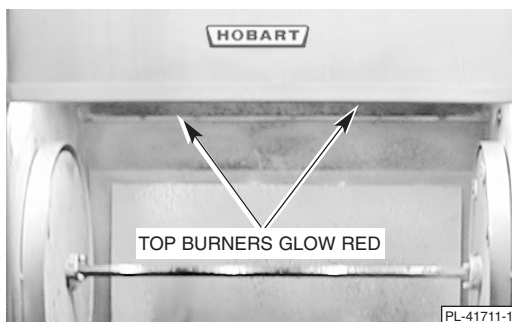

Fig. 30
- Check the burners in the top of the cavity to ensure the burners are lit and beginning to glow red (Fig. 30).